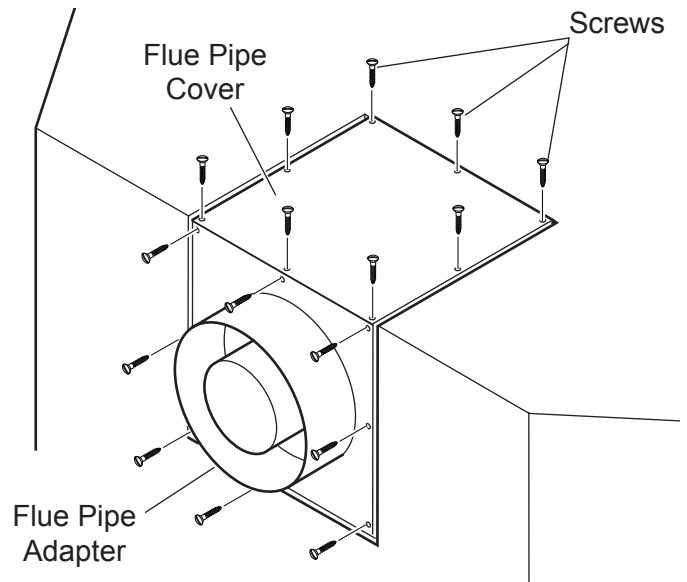

Figure 12 - Removing sixteen (16) Screws from Flue Pipe Adapter and Flue Pipe Cover
1. Remove the eight (8) screws securing the flue pipe adapter to the fireplace body. *See Figure 12.*
3. Remove the eight (8) screws securing the flue pipe cover to the top of the intake box and remove the cover and gasket. *See Figure 12.*